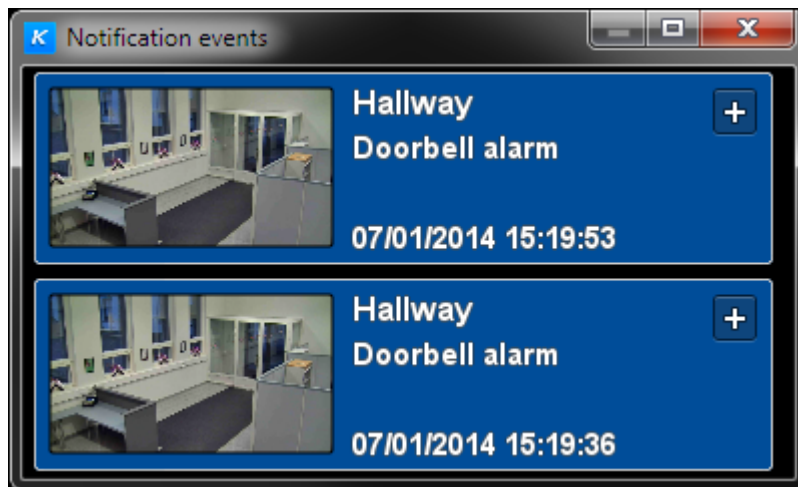

Figure 5.17: Notification event window.
- When the notification event window is open, all the triggered notifications will be opened in it (Figure 5.17). Notification pop-up as motion is detected on “Frontyard” camera. These notifications also open up over remote connection. Each notification is logged to Alarm log.